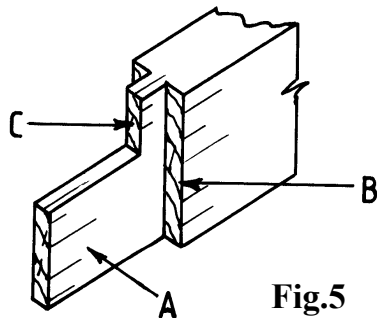

Fig.5
16. Name the parts indicated in fig. 5.